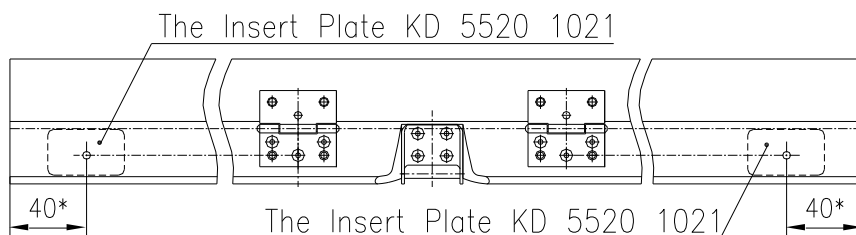

Fig. 3-17
- **Caution:** The center of the hole “1” of the hinge “a” shall be coincided with the center of the glued Insert Plate KD 5520 1021 (Fig. 3-17).